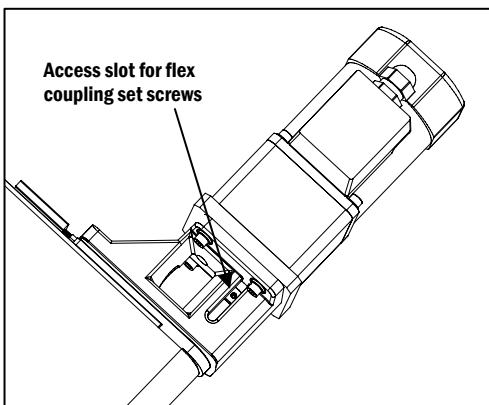

Figure 6
b. The Set Screws on both Coupling Halves will be visible through the top opening in the Casting by rotating the drive pulley (Figure 6). Using an Allen Wrench, tighten the Set Screws to secure their position.